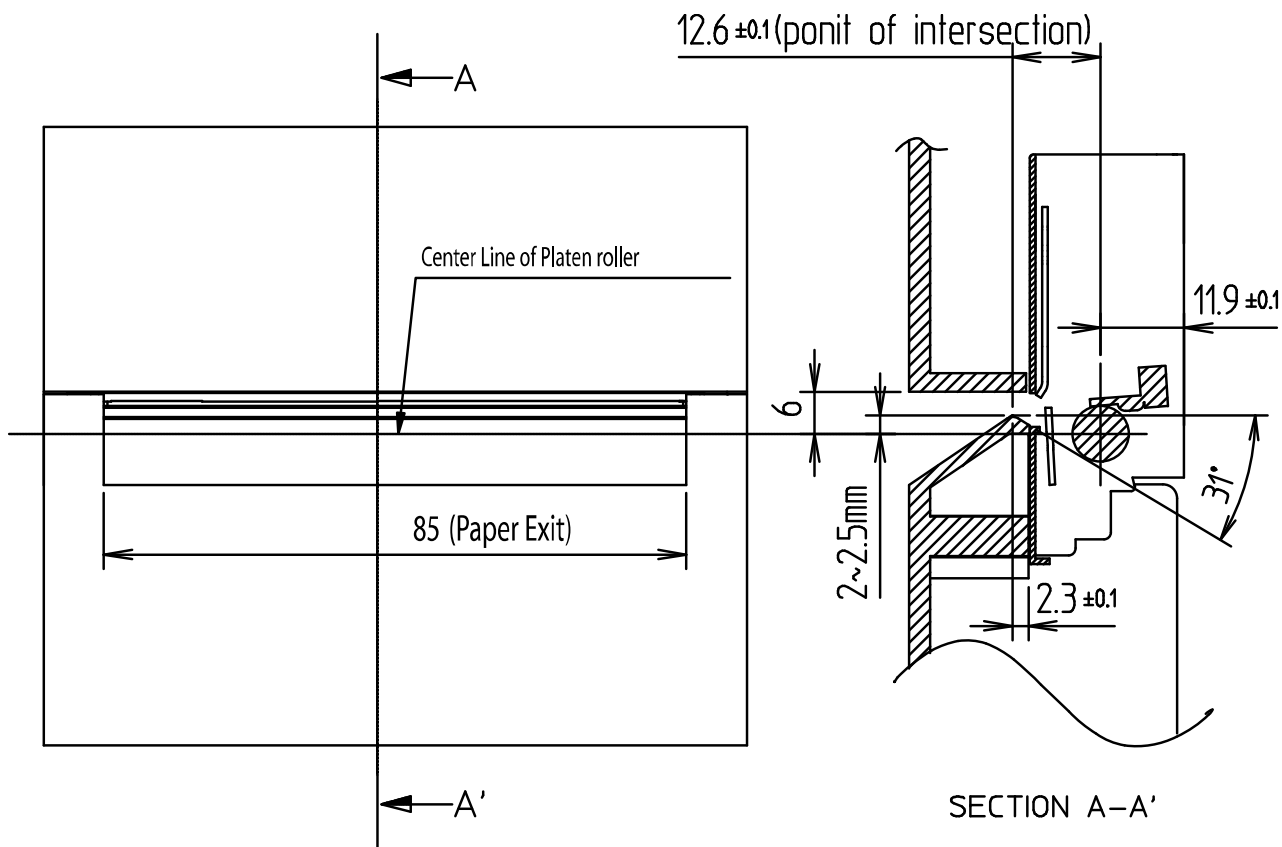

Fig 13-2 Example of recommended paper exit design
- Secure enough space so that paper exit is free from external force during printing. Among the dimensions shown in Fig 13-2, especially incorrect dimension about 2~2.5mm,  $12.6 \pm 0.1$ , and  $31^\circ$  may cause problems such as shortening the life of cutter or paper jam, therefore design the system with the correct dimensions. Check performance by actually using the device.